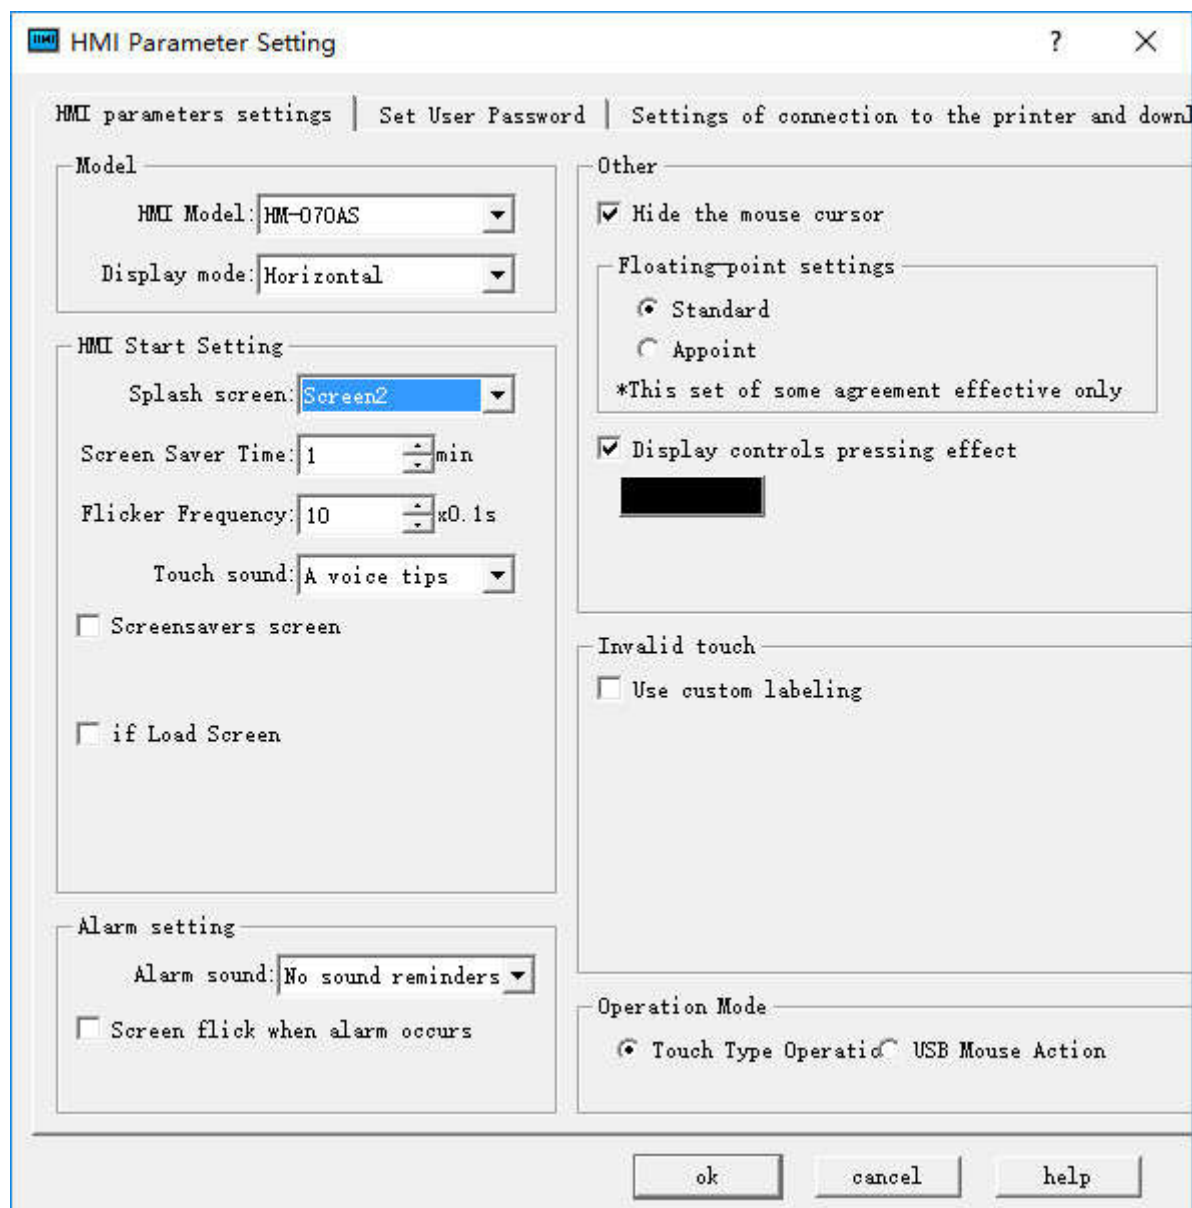

Figure 3-6 General parameter setting dialog box
1. You can modify the parameter settings through Preference Setting in the drop-down menu Settings, or double-click the HMI Parameter Settings in Setting, Project Manager. Then a pop-up dialog box is shown as Figure 3-6 below: